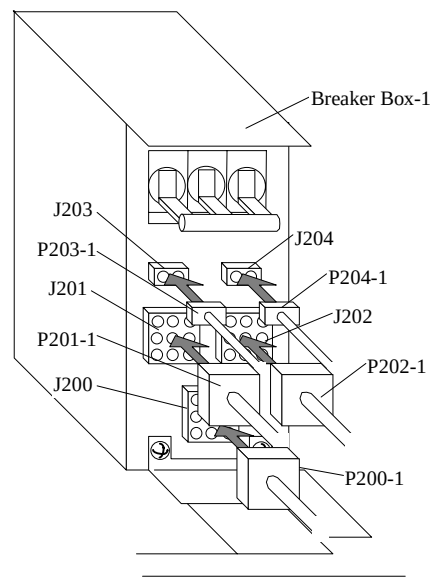

Fig. TUV12-8 Cable Connection of Breaker Box-1
- Connect the cable connectors. Refer to Table TUV12-2 and Fig. TUV12-8.